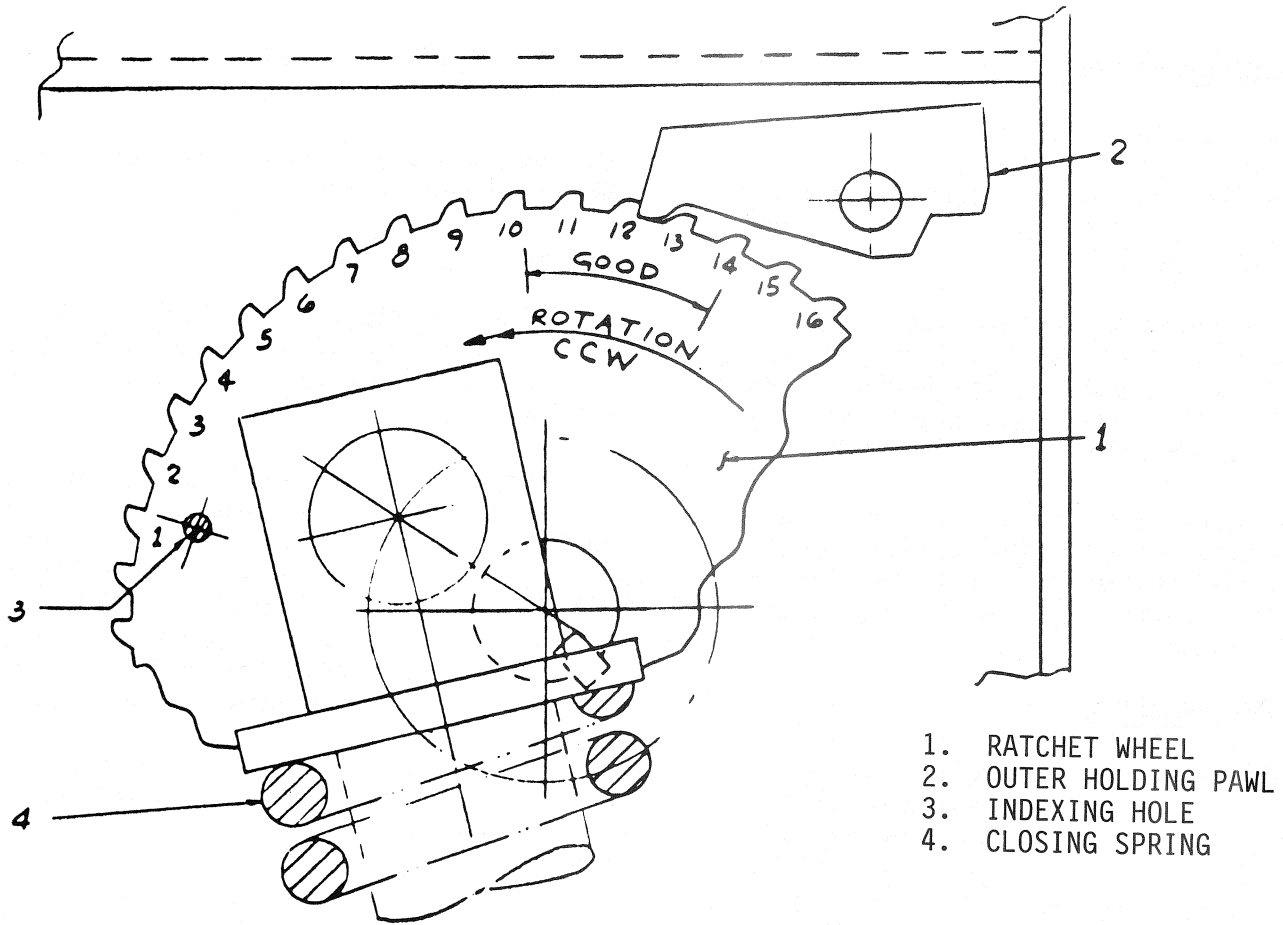

FIGURE 12 CLOSING SPRING CHECK AT RATCHET WHEEL
Refer to Figure 12. With the closing spring fully charged and control power disconnected, release the closing spring energy by pushing the manual close button (6) Figure 1.